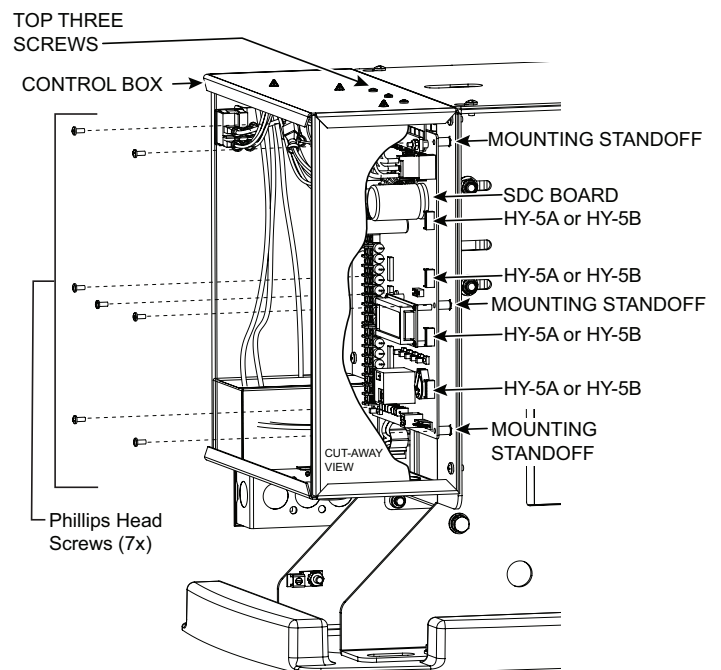

Figure 4. Control Box - Cut-away view of the SDC Board in a SwingSmart DC Operator
3. Use tape to identify the various accessory connections and then disconnect all accessory cables attached to the board. See Figure 4.
4. Disconnect all harness connectors and any HY-5A or HY-5B vehicle loop detectors. Use needle nose pliers to crimp the HY-5A or HY-5B standoffs and then push the standoff through the mounting hole. See Figure 4.
5. Use a Phillips-head screwdriver to remove the seven screws from the board and three screws at the top of the control box. Set the Smart DC Controller board and the ten screws aside. See Figure 4.
7. Reattach all accessories, harness connectors, and HY-5A or HY-5B vehicle detectors to their proper locations on the replacement Smart DC Controller board. Make sure all jumpers are wired correctly. See Figure 4.